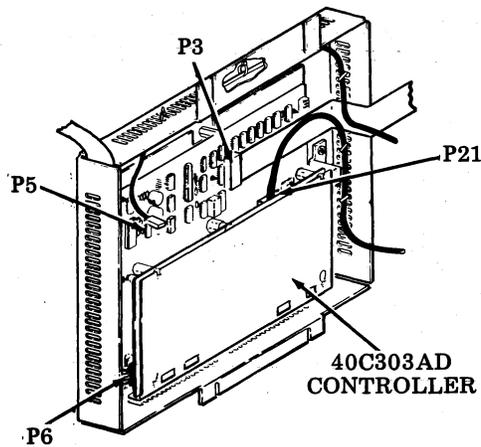

Fig. 43—Controller Connectors
- (a) Locate 40C303AD controller in controller cover. Remount two brackets; secure brackets with four screws (Fig. 43).
- (b) Plug in P3 (EIA), P5 (SSI), P6 (Opcon) and P21 (Power) connectors (Fig. 43).